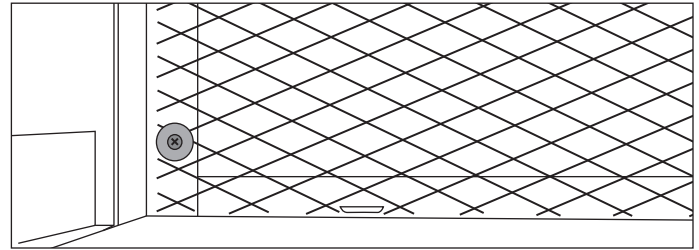

Figure 2-62.
1. If wall sleeve does not have a rear grille or louvered panel, install plastic grille panel from kit. The plastic grille panel is mounted to the inside of wall sleeve at the rear flanges. There are (4) plastic nuts in the flanges of the wall sleeve. If sleeve is missing these nuts or they are damaged, replacement nuts and grille mounting screws are supplied with the kit. The nuts are installed from inside of the sleeve and are pressed into the square holes of rear flanges. Place grille against rear flanges and use (4) washer screws to secure grille to sleeve. (See Figure 2-62)